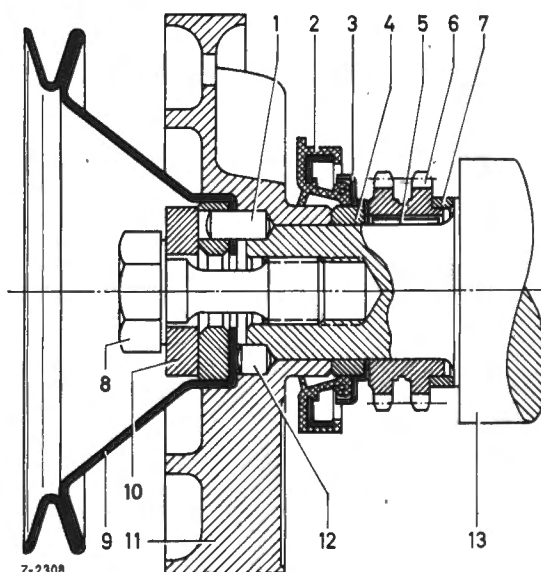

Fig. 03-10/1
2. Unscrew the stretch screw (8) together with washer (10) from the crankshaft. Remove vee-pulley (9) and counterweight (11) from the crankshaft, using Puller Part No. 186 589 033 300 (Fig. 03-10/1).
3. Fit the counterweight (11) to the crankshaft (13) in such a way that the bores for the cylindrical pins (1) and (12) are aligned. Then drive home the two cylindrical pins (Fig. 03-10/1).
4. Fit on the vee-pulley (9) and tighten by means of the stretch screw (8) and the washer (10) (see Fig. 03-10/1). For tightening torque of stretch screw see Job No. 00-0.